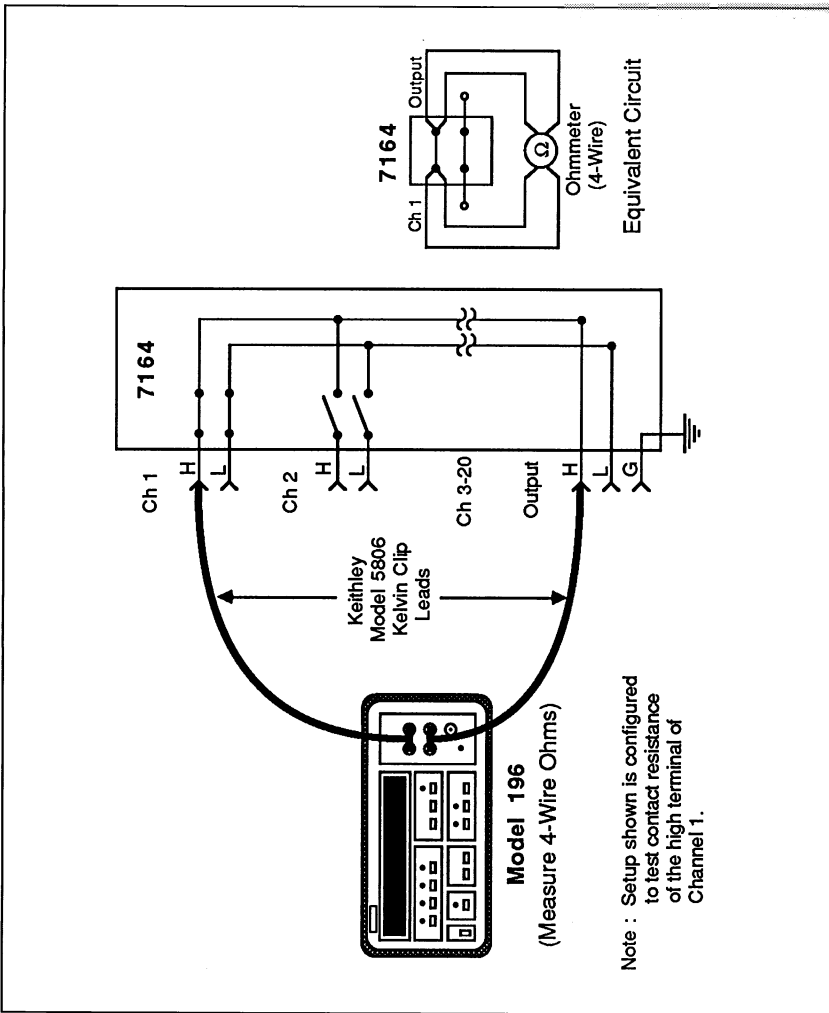

Figure 4-6. Path Resistance
Referring to Figure 4-6, perform the following steps to verify that the contacts of each relay are closing properly and the resistance is within specification.
2. Connect the Kelvin clip leads to the input of the Model 196 as shown in Figure 4-6 and select the 300Ω range.